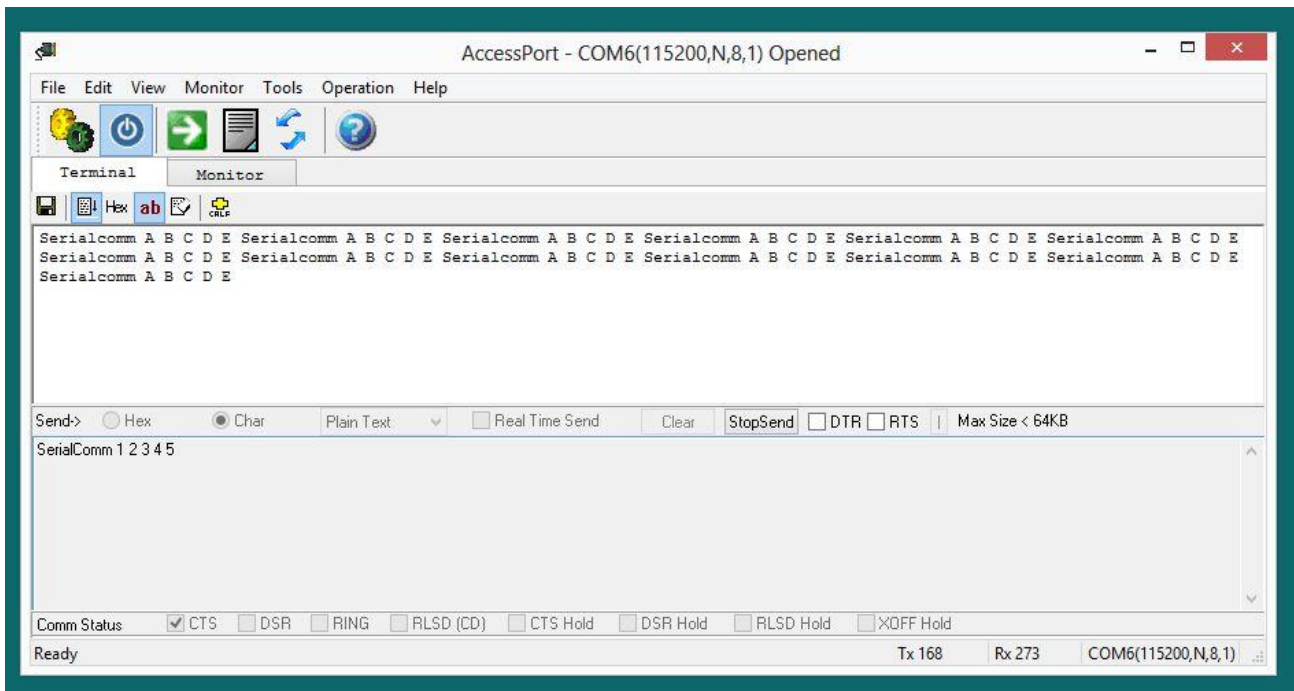

FIGURE 4.52 – SAMPLE OF ONE OF THE ACCESSPORT RESULTS
- 5) In the input message boxes you should see the strings being received repeatedly. (SEE FIGURES 4.52 and 4.53).